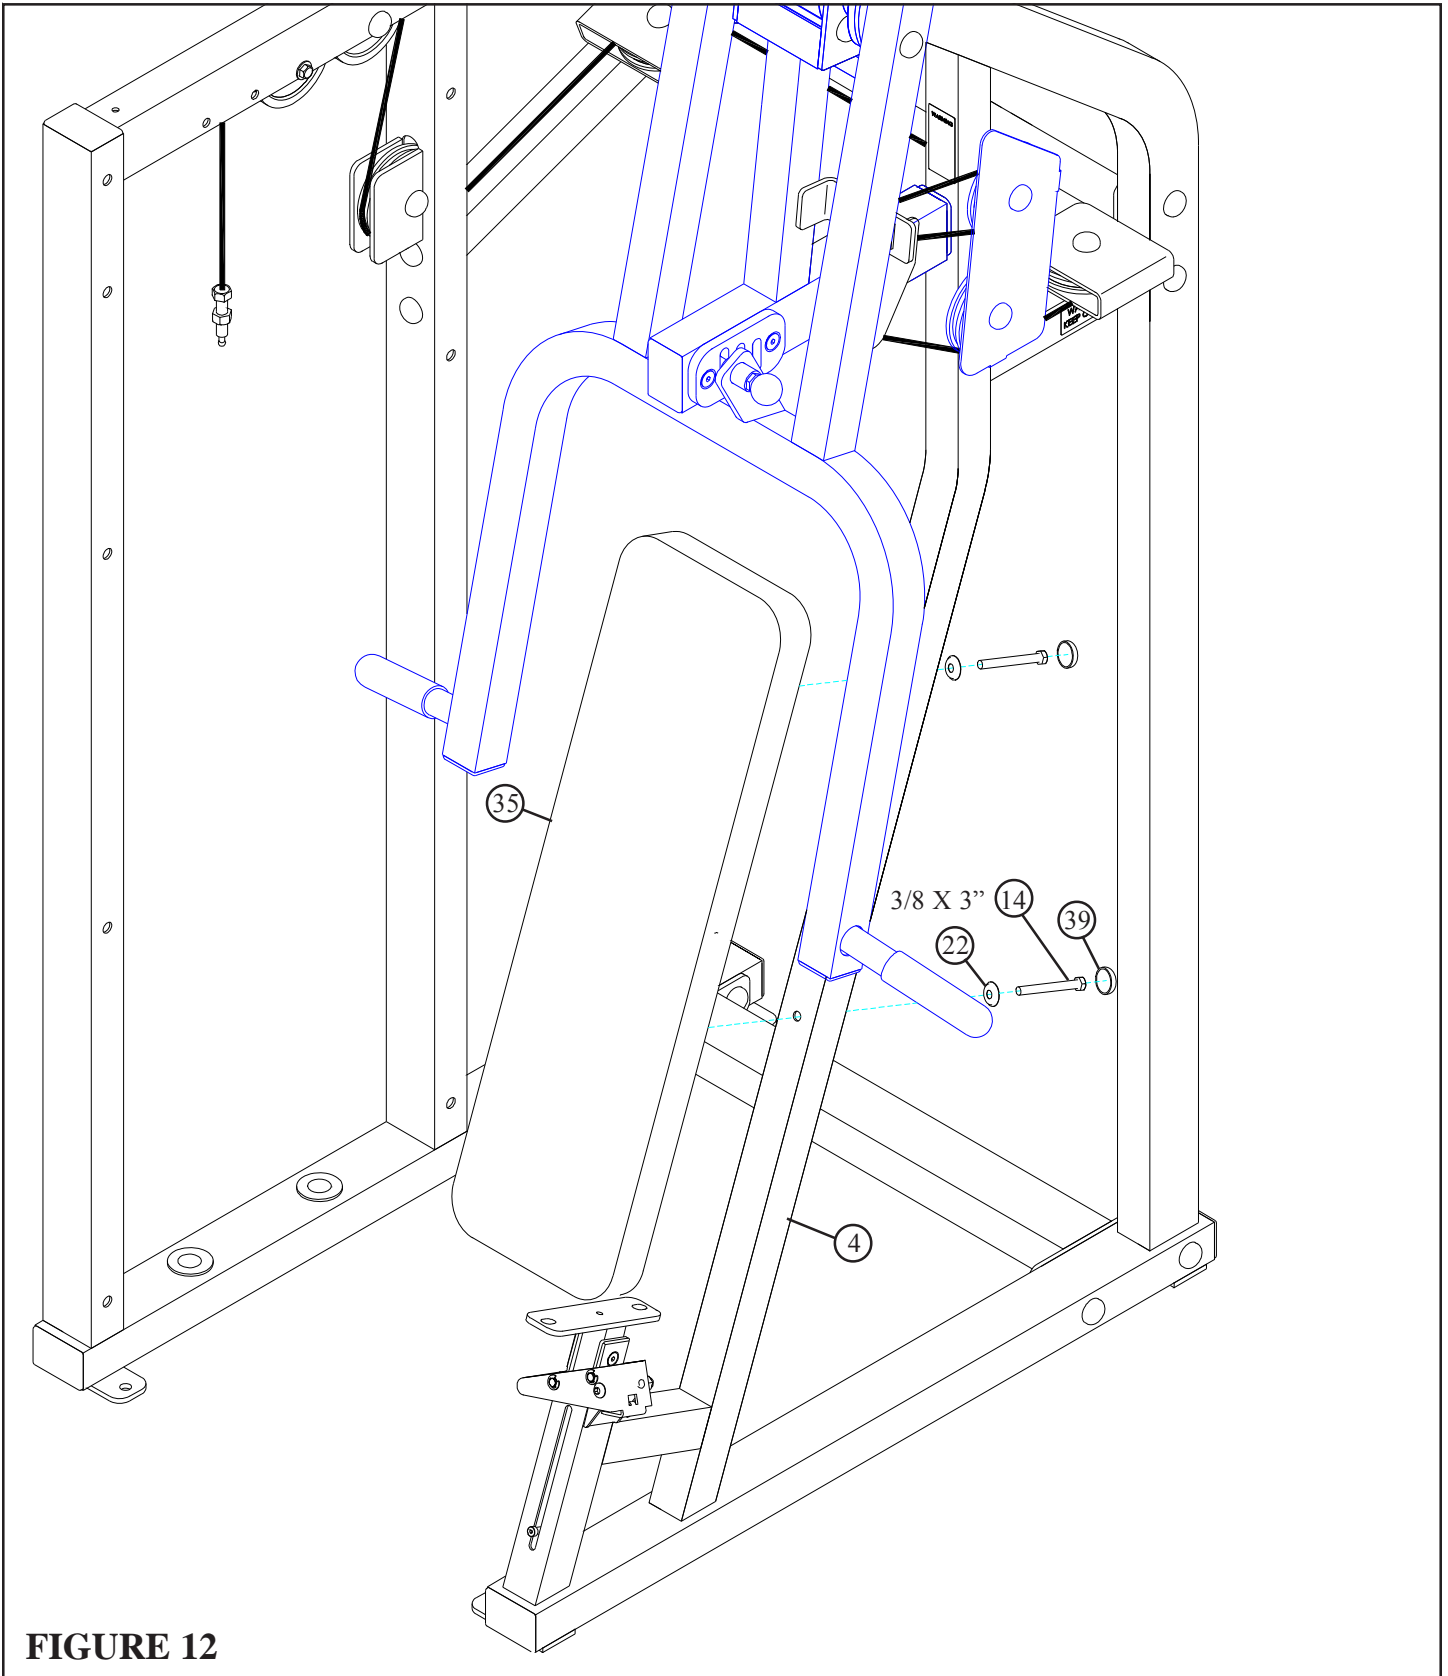

**FIGURE 11**
- **SECURELY** assemble the CABLE swivel end to the ARM ADJUSTMENT (3) using one 3/8 X 1-3/4" BOLT (12), two RH WASHERS (22), one 3/8" LOW HEIGHT LOCK NUT (19) and two RH CAPS (39) as shown in FIGURE 11. (**NOTE: Securely tighten connection, then back nut off 1/4 turn to allow the cable swivel to rotate freely.**)